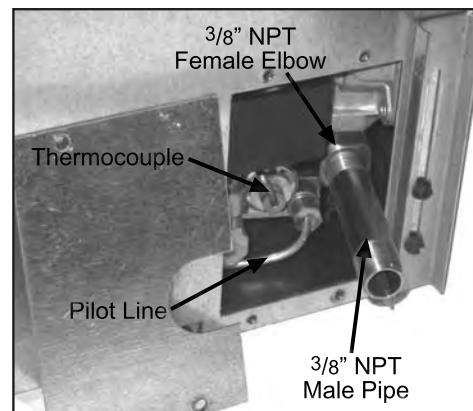

Figure 50: $\frac{3}{8}$ " NPT female elbow.
- A $\frac{3}{8}$ " NPT male pipe will have to be turned into the $\frac{3}{8}$ " NPT female elbow at the lower right side rear of this fireplace (see Figure 50). Consult the local authorities for local codes or use the CAN/CGA B149 (1 or 2) installation code in Canada. In the US, gas installations follow either local codes or the current edition of the National Fuel Gas Code ANSI Z223.1.